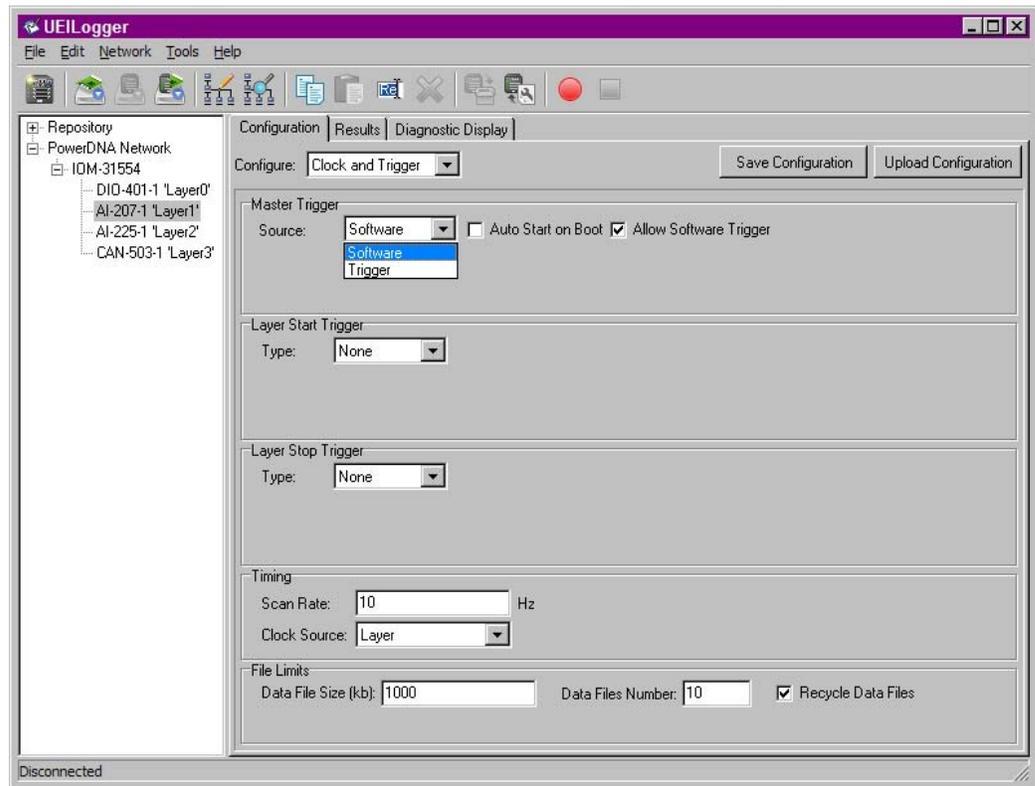

Figure 2-21. Configuring Clock and Trigger
- STEP 1:** In the left screen panel, click on Layer0 to display the AI-207 configuration screen. Then, in the Configure box, pull down the menu and select the “Clock and Trigger” option. The screen shown in **Figure 2-21** appears.